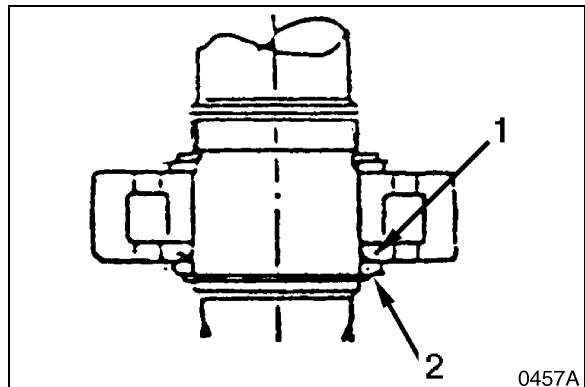

Figure 27
Make sure that bearing raceways (collars) are facing right direction. The drawing shows one side of the bearing collar (1, Figure 27), marked "R," which should be assembled next to spacer (2) on lower end of drive shaft.